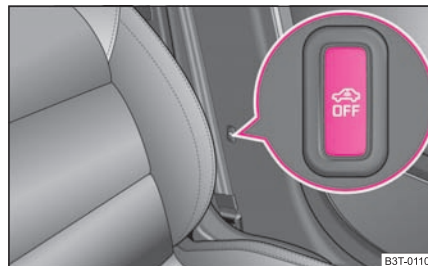

Fig. 35 Button for interior monitor and towing protection monitoring
- Press the button  at the centre column on the driver side → fig. 35, the symbol  which lights up in the button changes from red to orange.